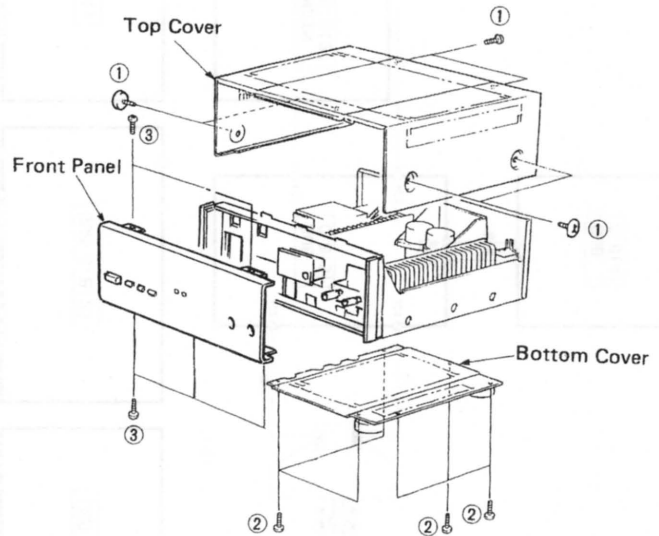

Fig. 1
Remove 6 screws ( ① ) in Fig. 1. and slide the Top Cover back.
Remove 6 screws ( ② ) in Fig. 1.
Remove 5 screws ( ③ ) in Fig. 1.